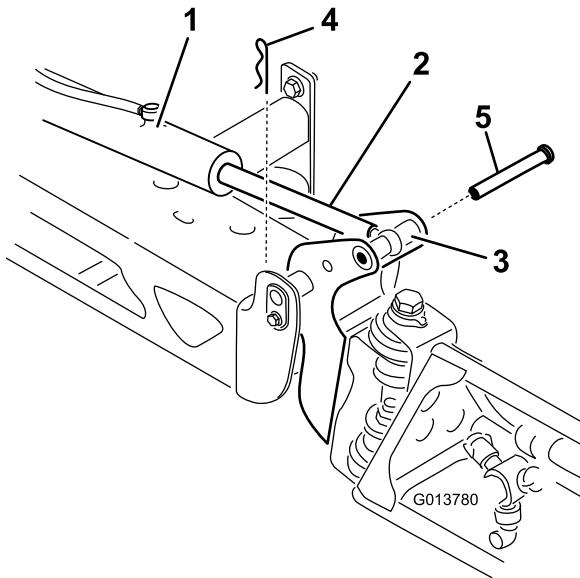

Figure 69
7. While supporting the spray section, insert the clevis pin through both boom pivot and actuator rod (Figure 69).